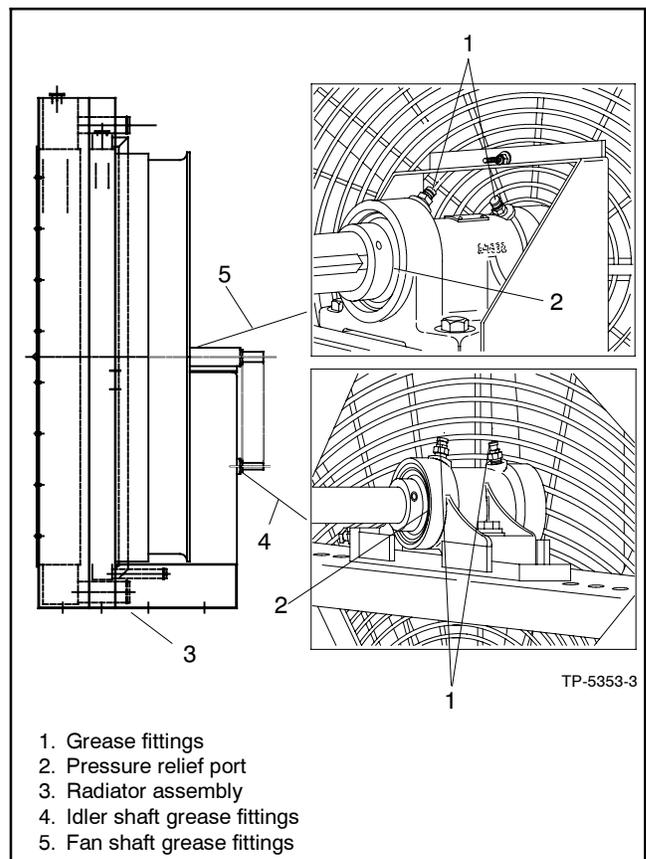

Figure 3-14 Radiator Fan Bearings and Pressure Relief Ports, Typical
4. Inject grease into the two bearings on the fan shaft block and the two bearings on the idler shaft block using a grease gun until a 3–6 mm (0.13–0.25 in.) grease column shows at the bearing pressure relief port. See Figure 3-14.